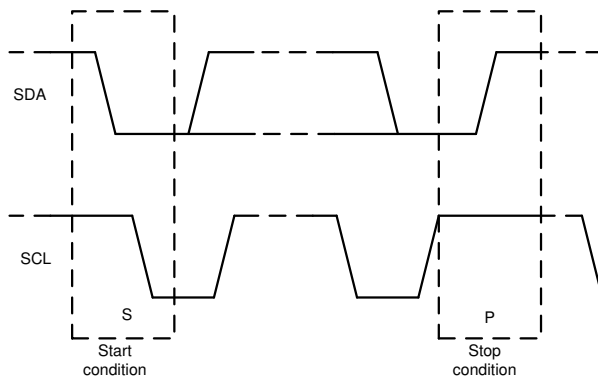

Figure 7-21. Start and Stop Conditions
1. The controller initiates data transfer by generating a start condition. Figure 7-21 shows that the start condition is when a high-to-low transition occurs on the SDA line while SCL is high. All I²C-compatible devices recognize a start condition.
4. Figure 7-21 shows that to signal the end of the data transfer, the controller generates a stop condition by pulling the SDA line from low-to-high while the SCL line is high. This action releases the bus and stops the communication link with the addressed target. All I²C-compatible devices recognize the stop condition. Upon receipt of a stop condition, the bus is released, and all target devices then wait for a start condition followed by a matching address.